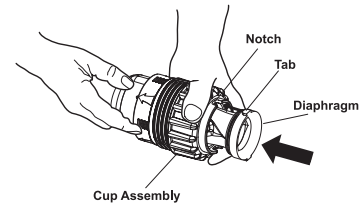

Figure 9
2. Insert inner pipe and diaphragm into cup assembly. Align diaphragm tabs with notches and pull straight through (do not twist) until the edge of the diaphragm is visible (see Figures 9 and 10).